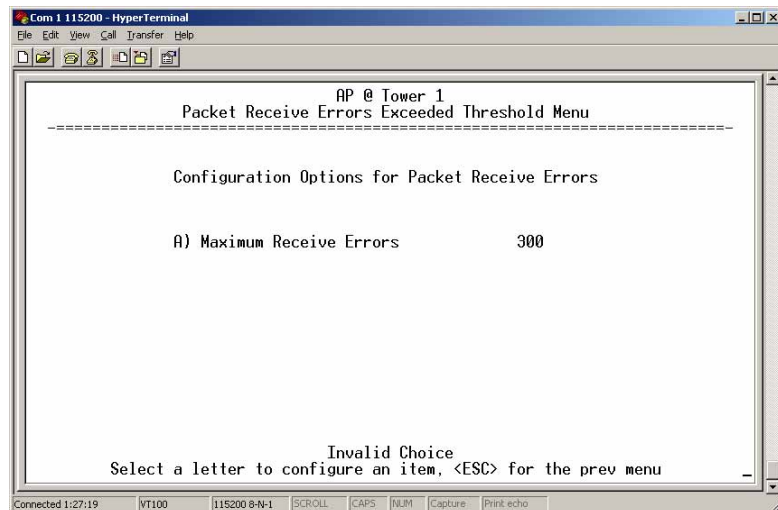

Figure 3-66. Packet Receive Errors Exceeded Threshold Menu
- ⌘ **Packet Receive Errors exceeded threshold** This setting determines whether or not a switchover occurs when the number of Packet Receive errors exceeds the number set in Figure 3-66 on Page 97. [enabled, disabled; disabled]
☞ **Packet Receive Errors Exceeded Threshold** □ This selection opens a submenu (Figure 3-66 on Page 97) where you can view or change the maximum allowable number of receive errors.